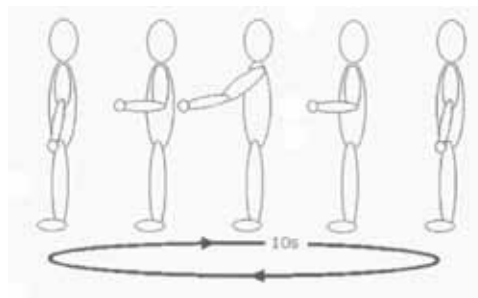

Figure 3.
The particle generation regions A and B were situated at floor level at the outer edges of the clean zone and the particle challenge was performed without a test person in the clean zone of the test chamber. The particle challenge in particle generation region C was performed below the table without a test person in the clean zone. In particle generation region D the particle challenge was performed in the clean zone in front of a cleanroom dressed test person, who was standing still, or calmly moved his arms in standardized cycles, moving the arms forwards and back, see Figure 3 (8).